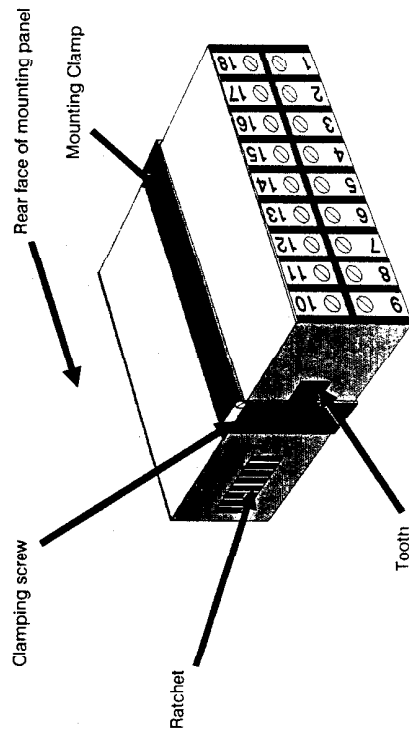

Figure 2-2 Panel-mounting the Indicator
2. Slide the mounting clamp into place on the Indicator (see Figure 2-2), and push it forwards until it touches the rear face of the mounting panel. Teeth on the arms which project to the rear of the clamp will engage with the ratchets moulded into the side surfaces of the Indicator housing.